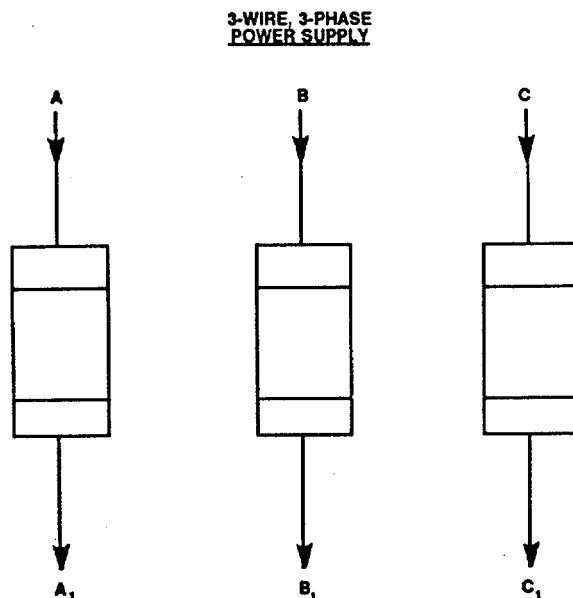

Figure 2-3. Checking Single Phase Circuit Fuses.
- 3 In a single phase circuit, turn the power ON and check between A, and G (ground) with a voltmeter (FIGURE 2-3). If no voltage is read, the A to A₁ fuse is defective. Make the same check between B₁, and G. If no voltage is read, the B to B₁ fuse is defective.